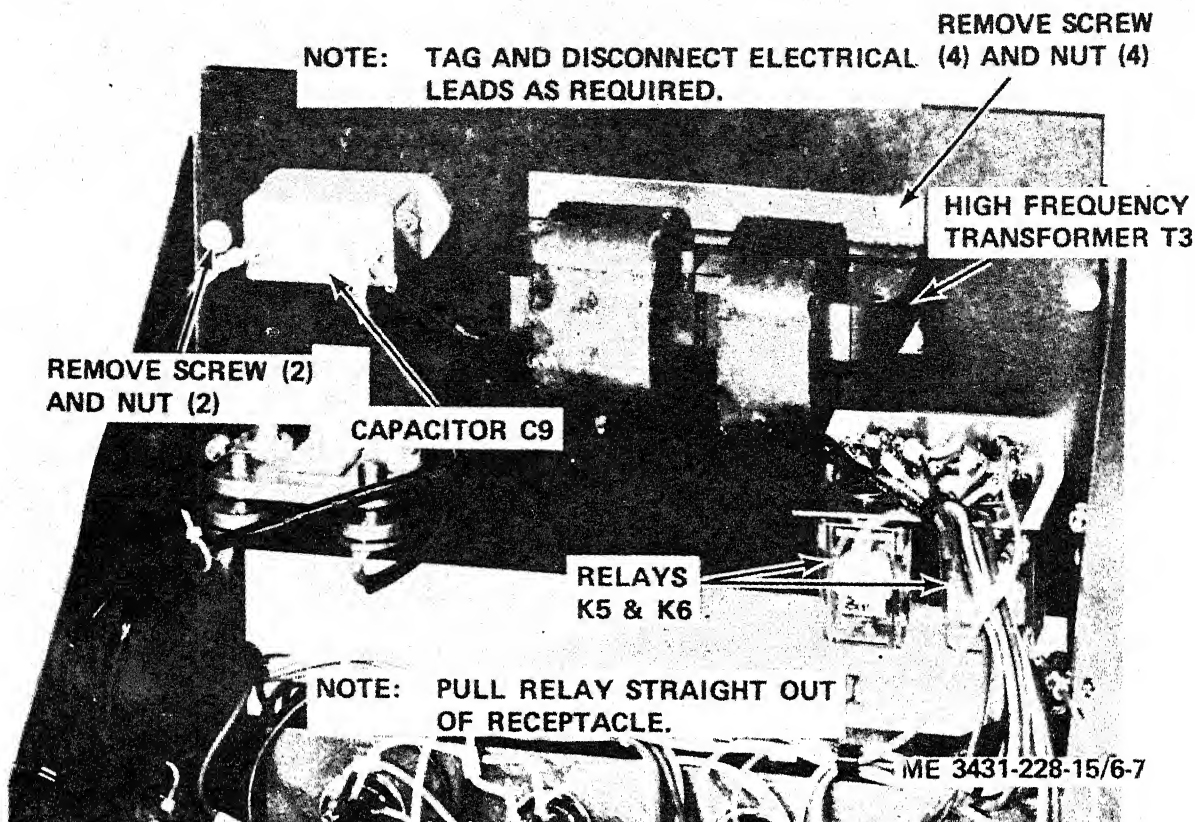

Figure 6-7. High frequency transformer T3, relays K5 and K6, and capacitor C9, removal and installation.
- (1) Remove timer and high frequency drawer (para 3-19).
- (2) Refer to figure 6-7 and remove the high frequency transformer.
- (1) Refer to figure 6-7 and install the high frequency transformer.
- (2) Install the timer and high frequency drawer (para 3-19).
- (1) Remove the timer and high frequency drawer (para 3-19).
- (2) Refer to figure 6-7 and remove the capacitor.
- (1) Refer to figure 6-7 and install the capacitor.
- (2) Refer to figure 6-7 and remove the relays.
- (1) Refer to figure 6-7 and install the relays.